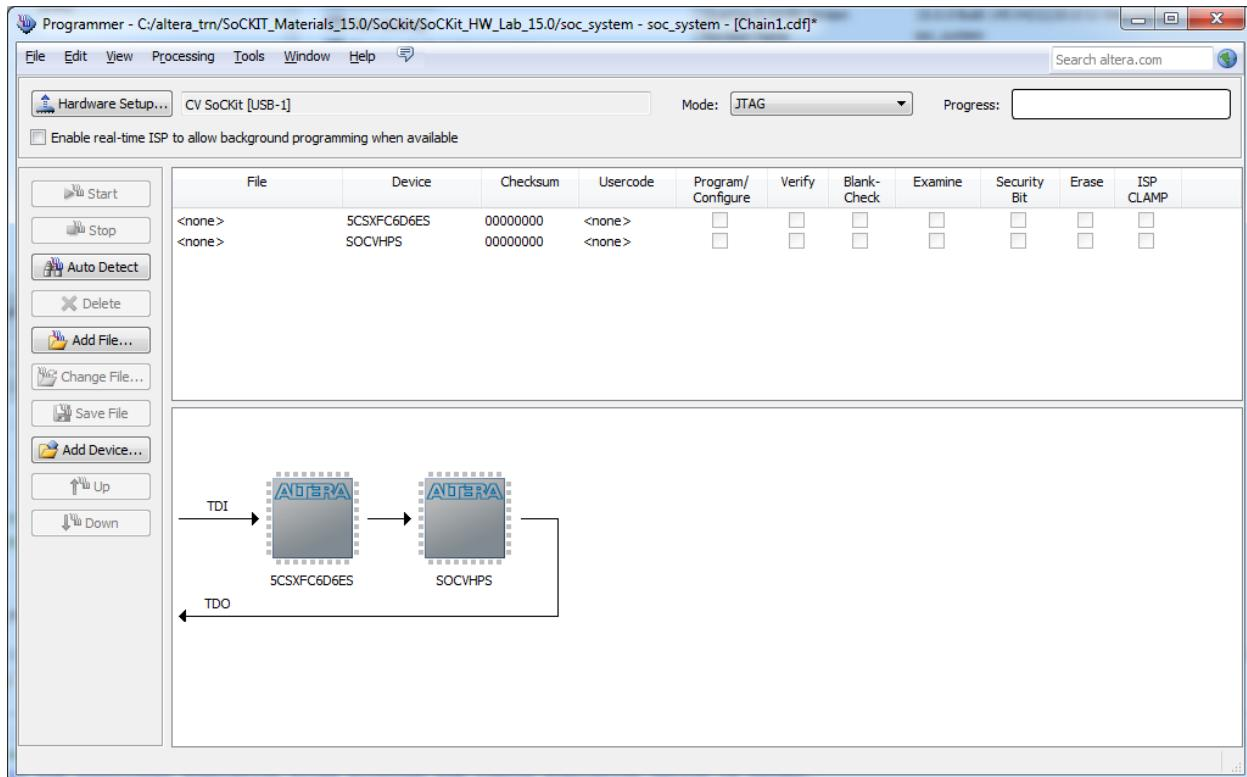

Figure 6.1.5
- The Programming window should now appear as shown in Figure 6.1.5 below: